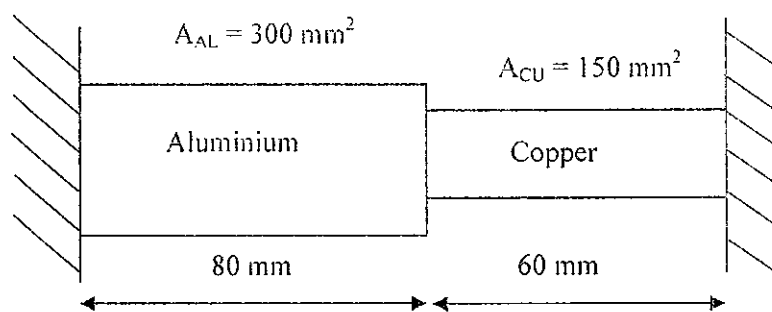

Figure 1(c)/ Rajah 1(c)
- (c) A series of bar consists of copper and aluminium bar which is fixed in between two rigid walls as **Figure 1(c)**. Determine the thermal stress induced in each bar if the temperature is increased by 80°C . Given that $E_{\text{aluminium}} = 69 \text{ GN/m}^2$ and $E_{\text{copper}} = 112 \text{ GN/m}^2$. $\alpha_{\text{aluminium}} = 23 \times 10^{-6} /^{\circ}\text{C}$, $\alpha_{\text{copper}} = 17 \times 10^{-6} /^{\circ}\text{C}$.